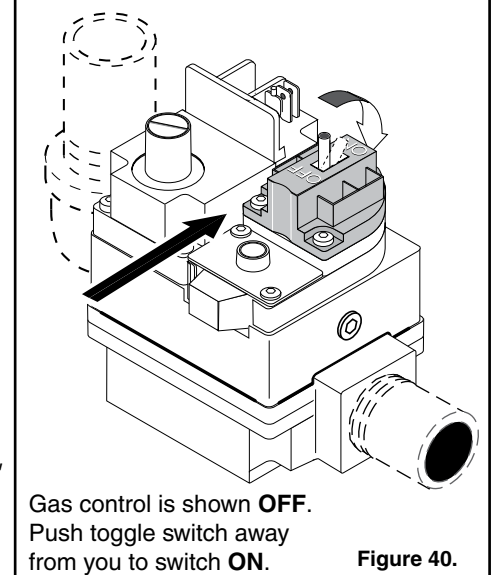

Figure 40.
3. Turn off all electric power to the appliance. Turn OFF the Manual Shut-Off Valve, see Figure 40.